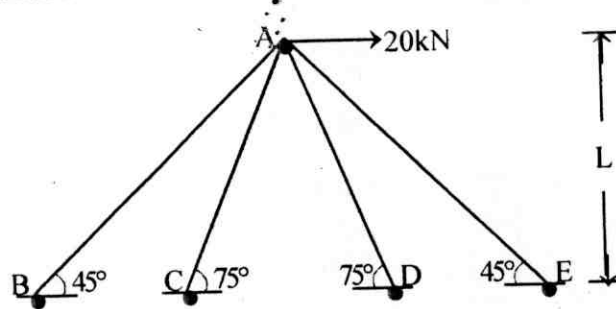

Fig. 6
3. Find the forces in all the members of the frame shown in fig. 6. All the bars of same area of cross section and of same material. Use strain energy principles for solution. (16)